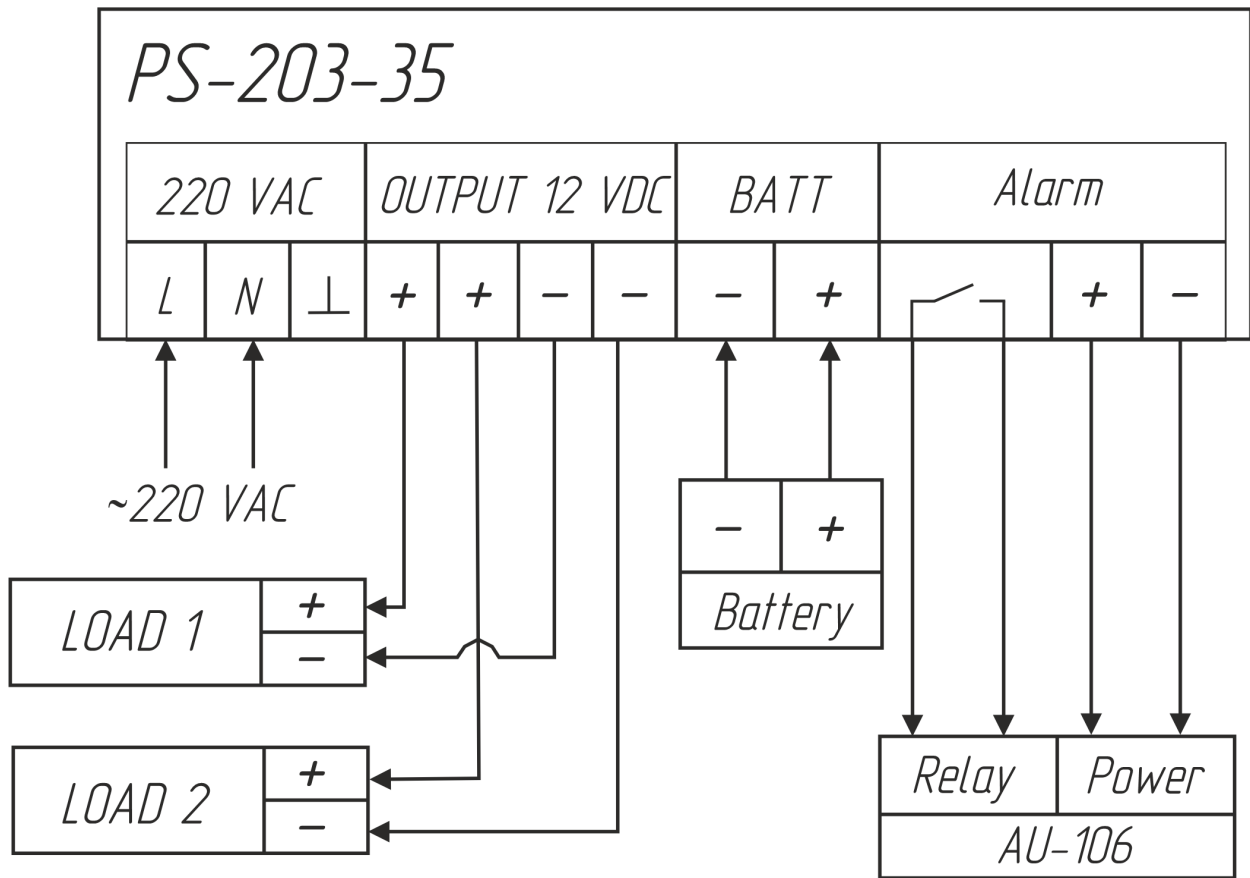

Figure 2 – Connection diagram
1.3.2 Power from standby sources or SB is supplied to the Product terminals ensuring uninterruptible operation of the equipment connected to the Product, see Figure 2.